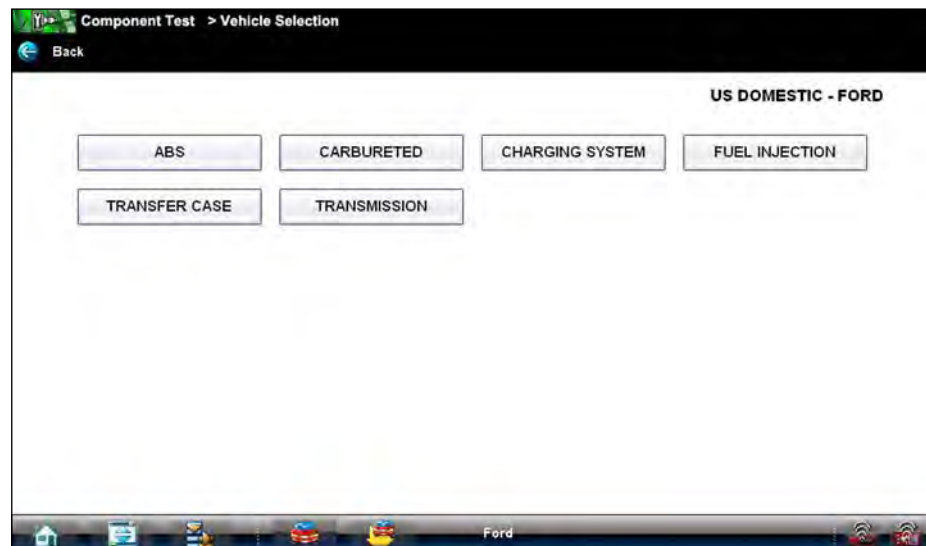

Figure 7-3 Sample available systems menu
3. Select **FORD** and a list of systems available for testing displays (Figure 7-3).